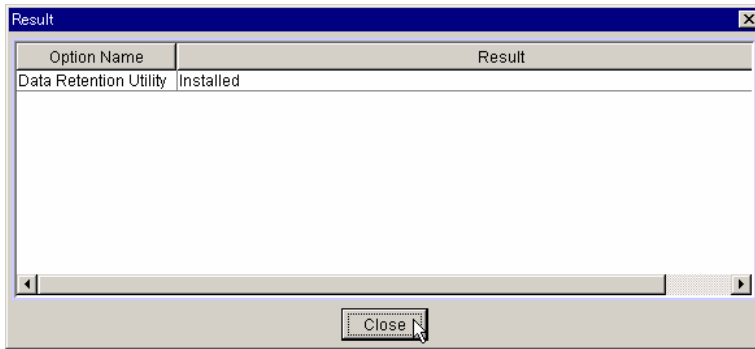

Figure 4.32 Result Window
- Click **Close** to display the **Result** window (see Figure 4.32).